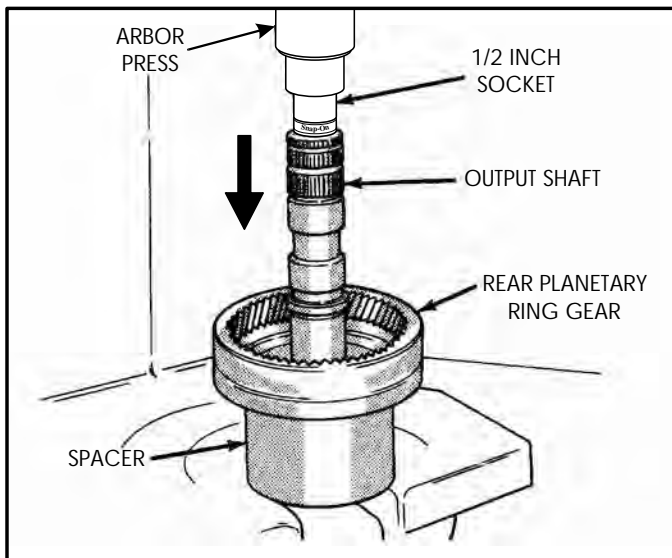

Figure 169
6. Reinstall output shaft into rear planetary ring gear with press and 1/2" socket, as shown in Figure 169.